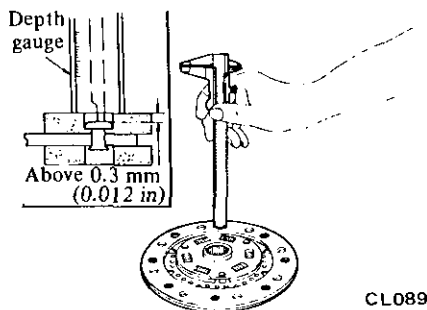

Fig. CL-3 Measuring clutch lining
2. The disc should also be replaced when facings are worn locally or worn down to less than 0.3 mm (0.012 in) at rivet. See Figure CL-3.